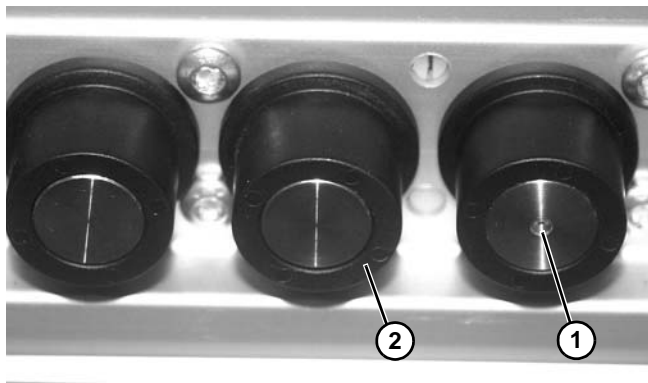

Figure 34
Keep strict attention to roller type. To differentiate and correctly install the two different style rollers: Driven rollers have a dot (Figure 34, item 1) in the center, and slip rollers (Figure 34, item 2) do not.